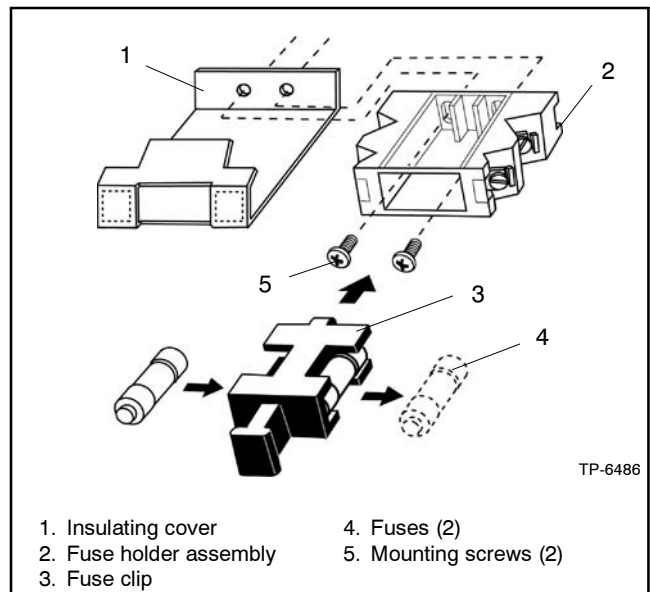

Figure 2-10 Preparing Fuse Holders
2. Bend the insulating covers to fit around the fuse holders as shown in Figure 2-10.